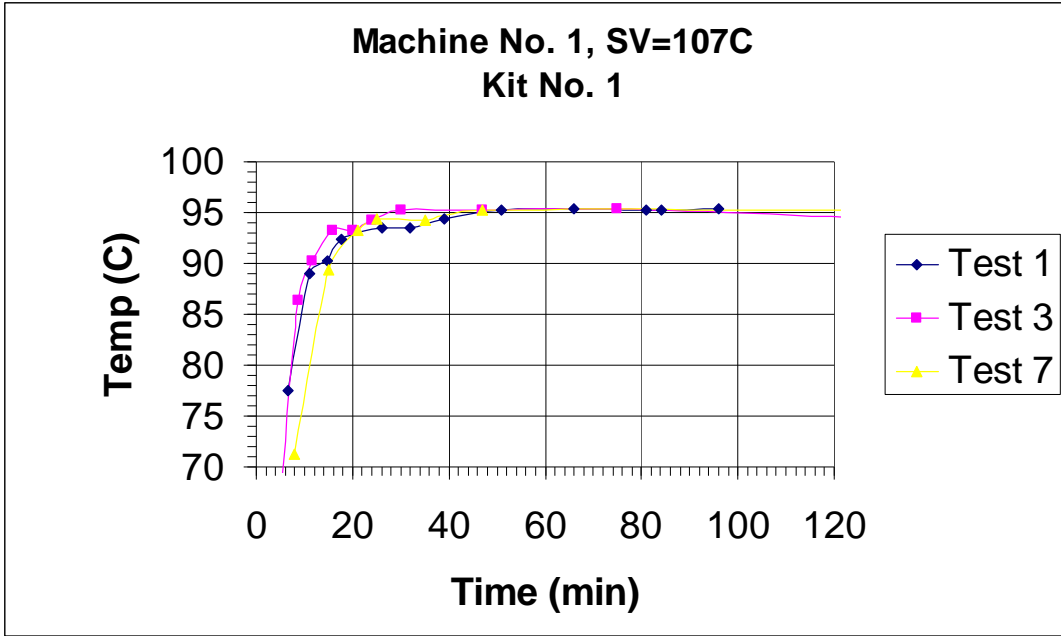

Figure 2
- 2) When the Tb was stabilized, it was about 8 to 10 °C lower than the controller set temperature (SV). Fig 2, 3, 4 and 6 indicated that for the same SV setting, Tb of Machine No 1 was about 1-2 degree lower than that of Machine No. 2 and No. 3. The differences were independent of the kit used.